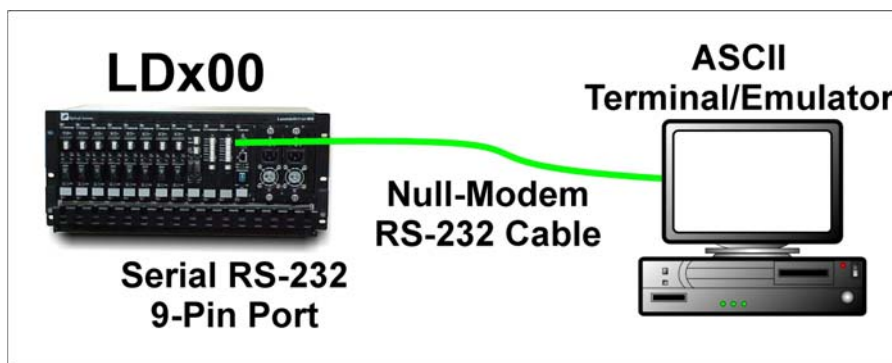

Figure 77: ASCII Terminal/Emulator Connection to LDx00 *Directly*
- **Directly** – as shown in *Figure 77*.